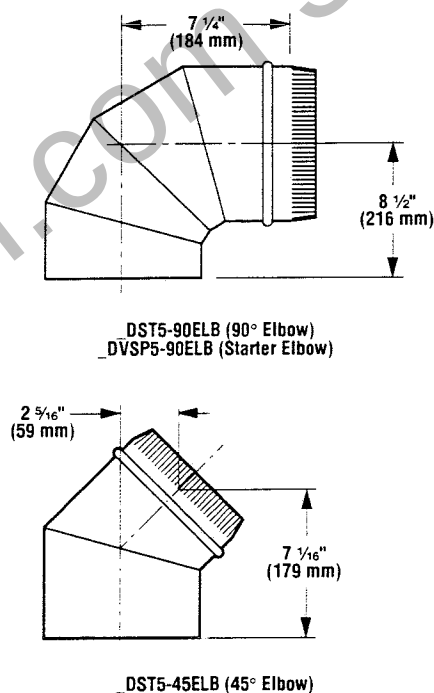

Figure 38
A. Analyze the vent routing and determine the types and quantities of sections required. Venting is available in 10 3/4" (273 mm), 16 3/4" (425 mm) and 34 3/4" (883 mm) net section lengths. Make allowances for elbows as indicated in Figure 38. Maintain a minimum 1" (25 mm) clearance to combustibles on the vertical sections. Clearances for the horizontal runs are; 3" (76 mm) on top, 1" (25 mm) on sides, and 1" (25 mm) at the bottom.